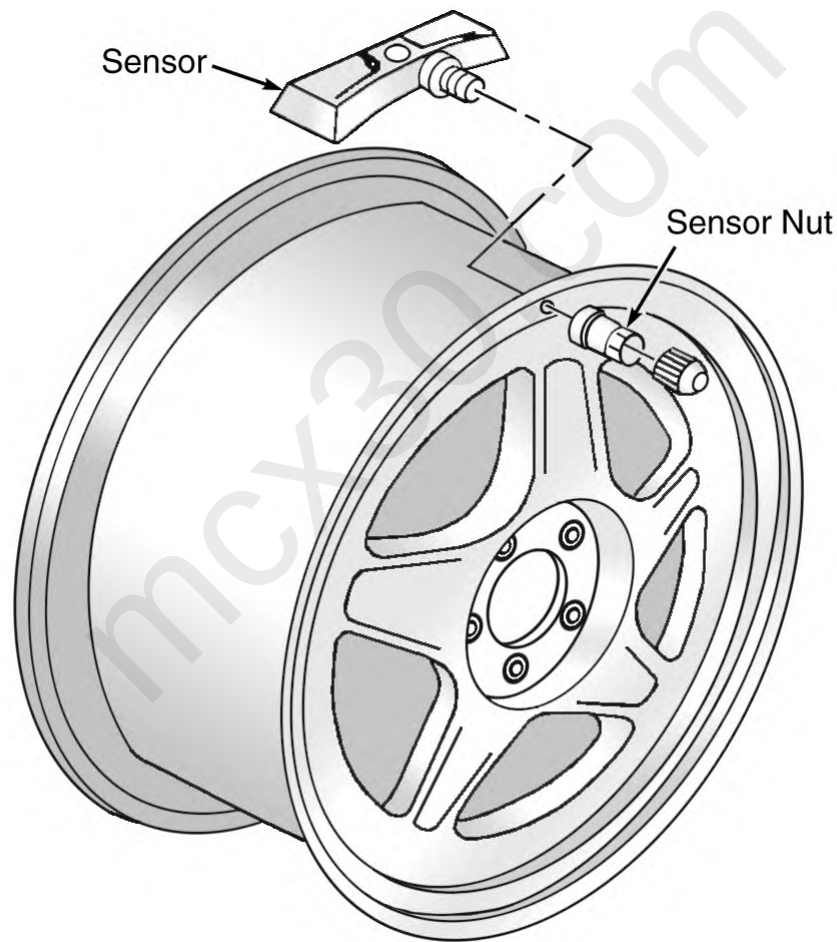

Fig. 2: Exploded View Of Tire Pressure Sensor (Old Style)
2. Remove tire pressure sensor nut (or screw). See Fig. 2.